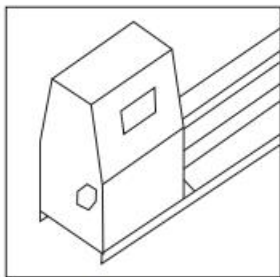

Figure 1
2. Loosen and remove the hex bolt with adjustable wrench. (as figure 1)